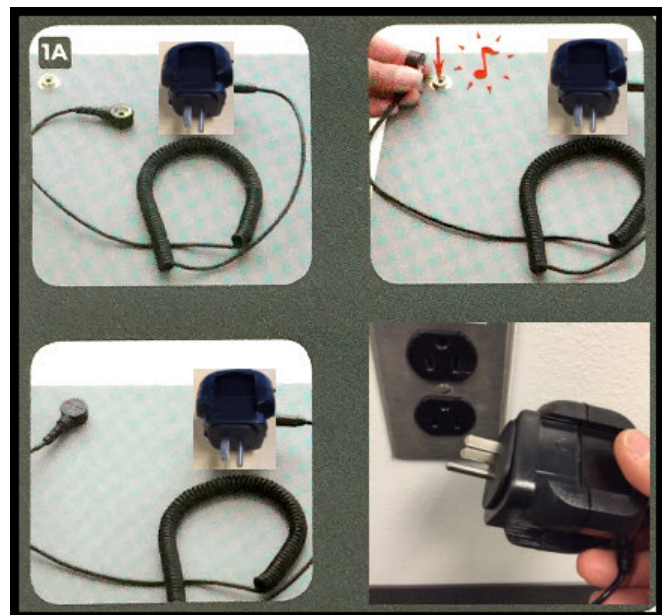

Figure 2. VAS6613 ESD work surface grounding plug.
4. Ground the ESD mat by plugging the 110V grounding strap into a wall socket or power strip (Figure 2). If a power strip is used, it must be plugged into a grounded wall outlet. (See attached user instructions for VAS6613 titled “VAS6613 ESD Workspace Guide.pdf”.)